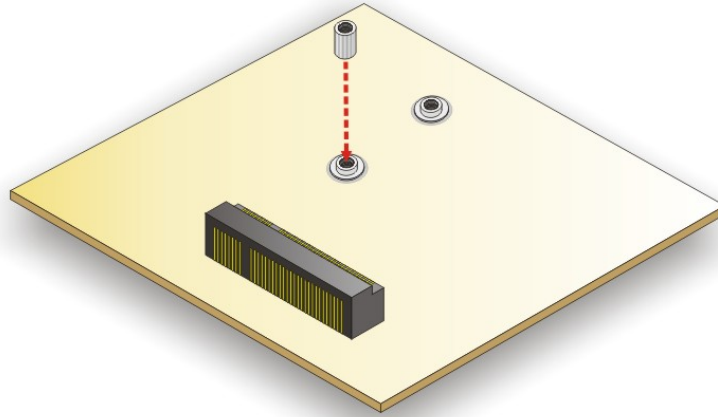

Figure 3-9: Installing the Standoff
Step 5: Install the previously removed standoff to the screw hole for the half-size PCIe Mini card (**Figure 3-9**).